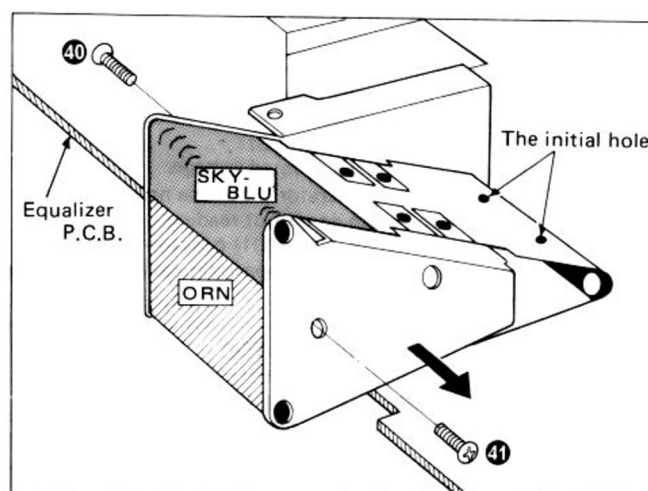
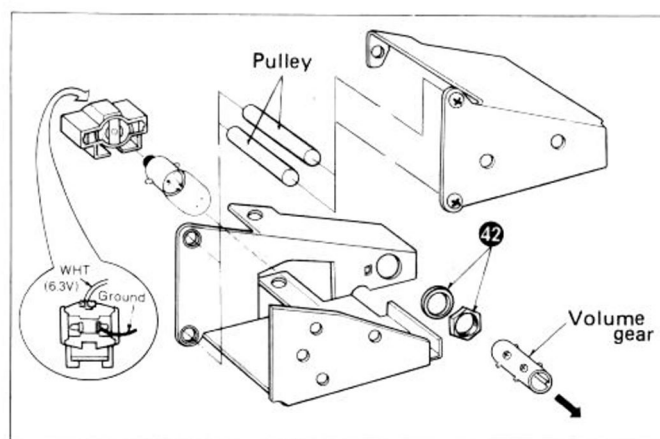

Fig. 5
Fig. 6
5. Remove the 2 setscrews (Fig. 5: 40 and 41) of the film bracket.
6. Slide the film bracket in the direction of the arrow in Fig. 5.
7. Slide the volume gear in the direction of the arrow in Fig. 6 to detach the volume gear from the motor assy.
8. Remove the 1 nut (Fig. 6: 42) of the volume control.
2. Wind the volume film around the volume gear and pulley (see Fig. 5 and Fig. 6), then secure it with the film fixing plate.
- In this case, the volume film should be positioned so that the initial hole of the film is engaged with the gear. (Refer to Fig. 5)